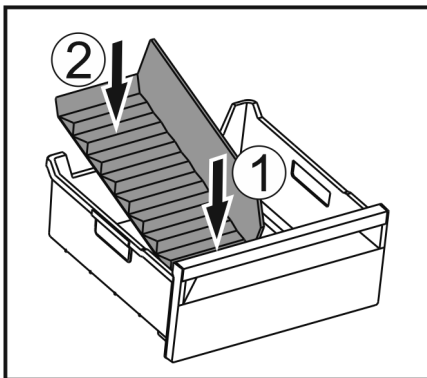

Fig. 196
- ▶ Insert the front part of the ice compartment divider. Fig. 196 (1)
- ▶ Lower the rear part of the ice compartment divider to the drawer bottom. Fig. 196 (2)